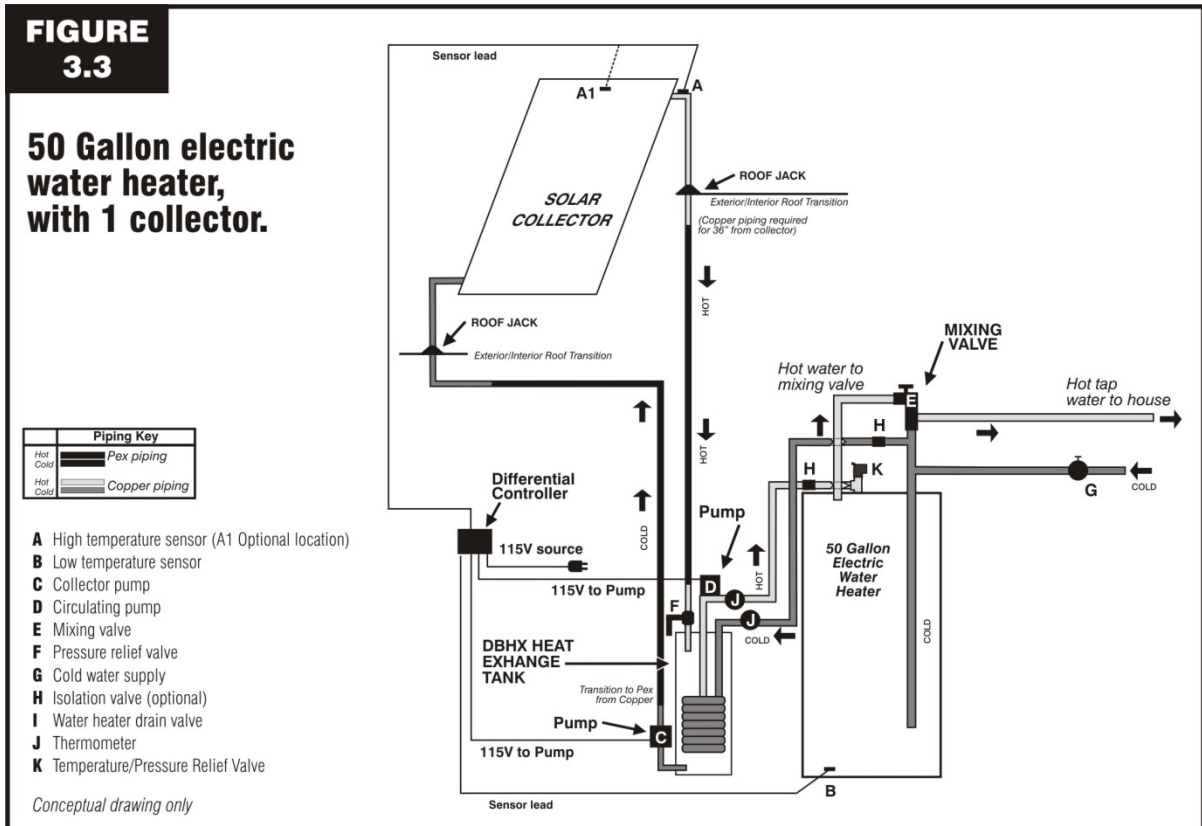

Figure 3.3
Follow these instructions and refer to Figure 3.1 (See Figure 3.3 for 50 Gallon Electric Water heater being used as storage and backup):
- E. Connect the storage supply line to the module at 1/2" union and to the 1/2" ball valve and dielectric union at the tank port. On a side connect tank, the storage supply port is the lower port. On a top connect tank, the supply port may be labeled "To Solar", "To Collector", "Pump Suction", etc. On a 50 gallon electric tank being used for both storage and backup (Systems ASDX-50-24C and ASDX-50-32P), use a 3/4" Tee to connect to the cold water feed directly above the tank (See Figure 3.3) On a dual tank system using a 50 gallon tank as storage (Systems ASDX-50-G-24C and ASDX-50-G-32P), use a 3/4" Tee and nipple to connect between the tank drain port and tank drain valve.
- F. Connect the storage return to the pump at 1/2" union and to the 1/2" ball valve and dielectric union at the tank port. On a side connect tank, the storage return is about the middle of the tank. On a top connect tank, the storage return may be labeled "From Solar" "From Collector", "Pump Discharge", etc.. On a 50 gallon electric tank being used for both storage and backup (Systems ASDX-50-24C and ASDX-50-32P), connect both the return line and the T & P Relief Valve to a 3/4" FIP Brass Tee fitted to the T & P Relief Valve port on the water heater (See Figure 3.3). On a dual tank system using a 50 gallon tank as storage (Systems ASDX-50-G-24C and ASDX-50-G-32P), use a 3/4" Tee to connect to the cold water feed line into the tank.
- G. On a single tank system, install an in line thermometer in both the storage supply and the storage return lines as shown in Figure 3.1 or Figure 3.3.